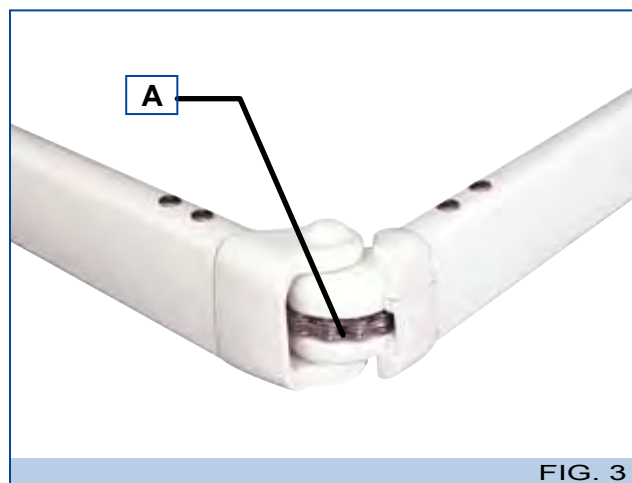
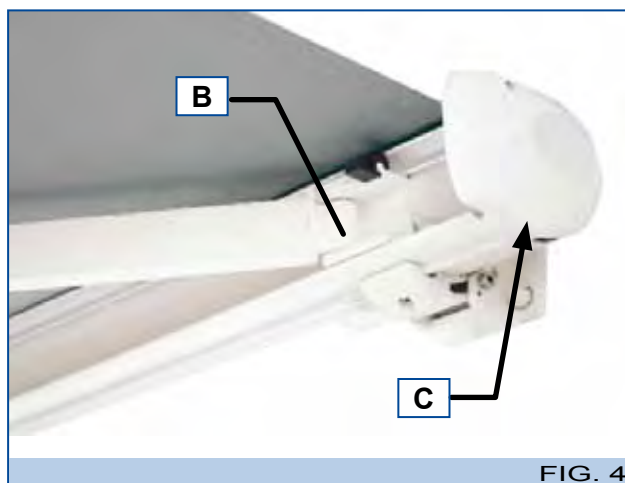

FIG. 3
FIG. 4
- If installed, lubricate the chain, the joint (A - Fig. 3) and the shoulder (B - Fig. 4).
- Lubricate the cover on the part opposite the control (motor or crank-rod) (C - Fig. 4).